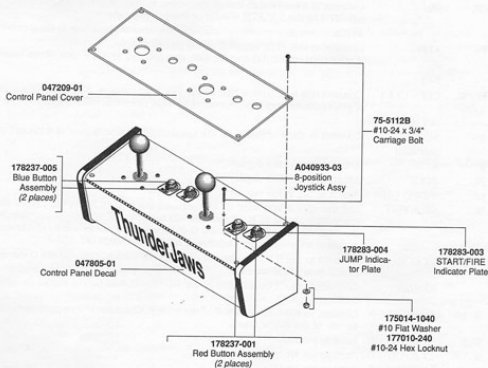

Figure 1-1 Assembling the Control Panel
- Install the buttons with the "START/FIRE" or "JUMP" indicator plate under each button. Install the blue player control buttons on the left and the red player control buttons on the right. (See Figure 1-1.) Install the joysticks with the carriage bolts, washers, and locknuts.